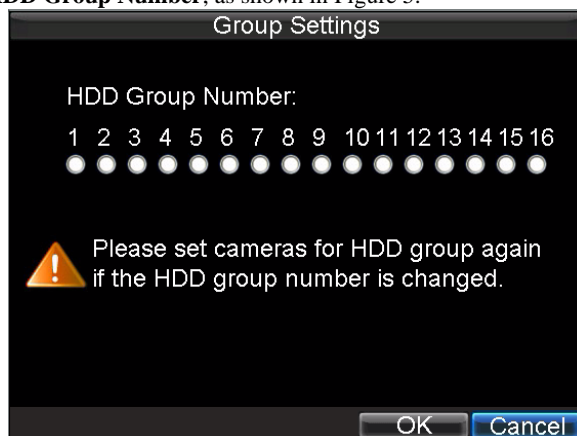

Figure5. HDD Group Settings Menu
4. Set the **HDD Group Number**, as shown in Figure 5.